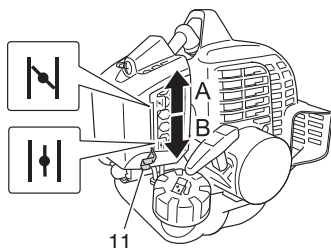

Fig. 10
- (3) Set choke lever (11) to START position (closed) (A). (Fig. 10)
- (5) When you hear the engine want to start, return choke lever to RUN position (open) (B). (Fig. 10)